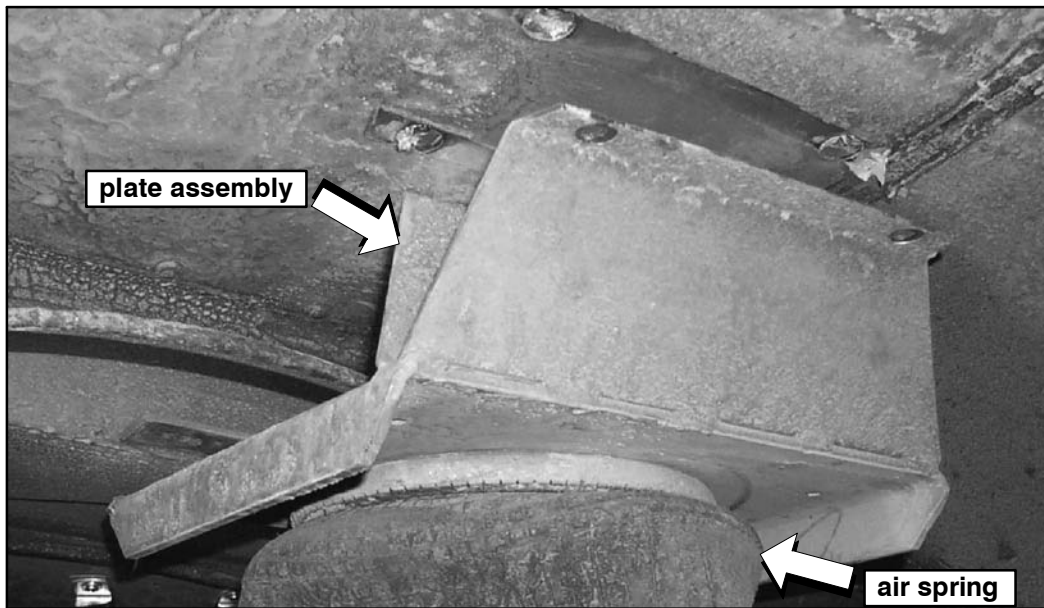

Figure 4. Reference photo.
15. Remove and discard the plate assembly and mounting hardware (Figures 4 and 5).